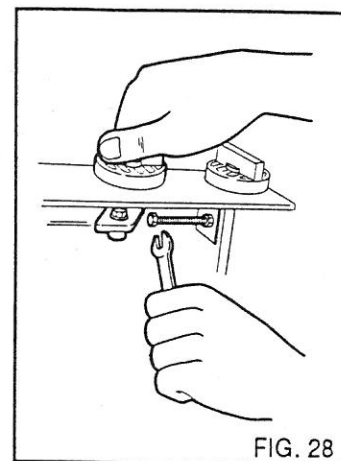

FIG. 28
- 3) Slacken the lock nut "A" (fig. 28) that blocks the adjustment with the spanner provided and adjust the limit stroke screw "B" until the brush touches the ground.